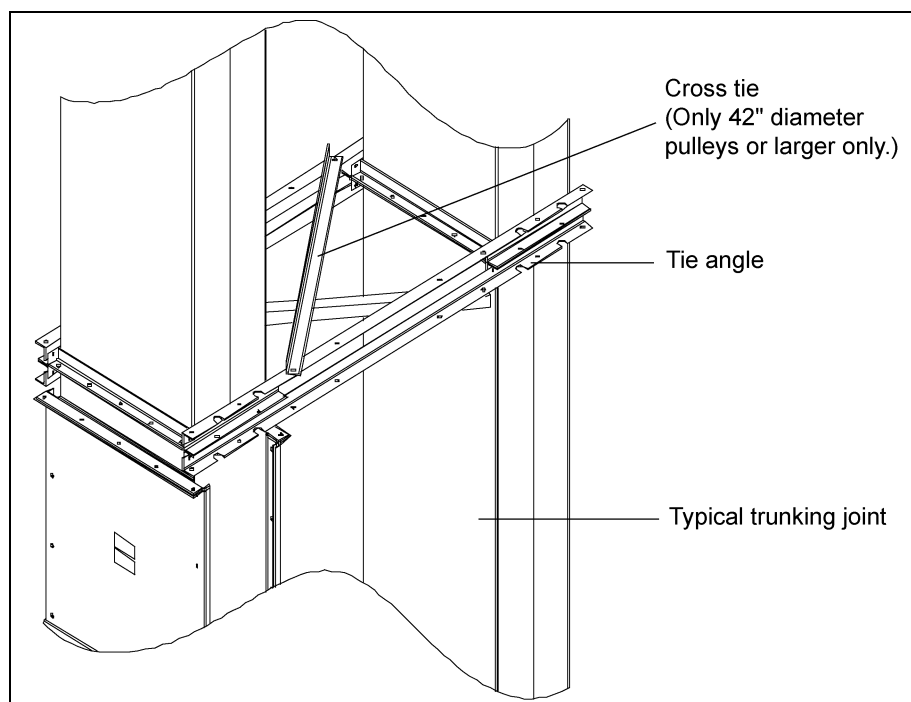

Figure 7D Trunking Joint
2. Attach tie angle to single trunking as shown in Figure 7D. (If 42" diameter or larger install cross tie angle.)